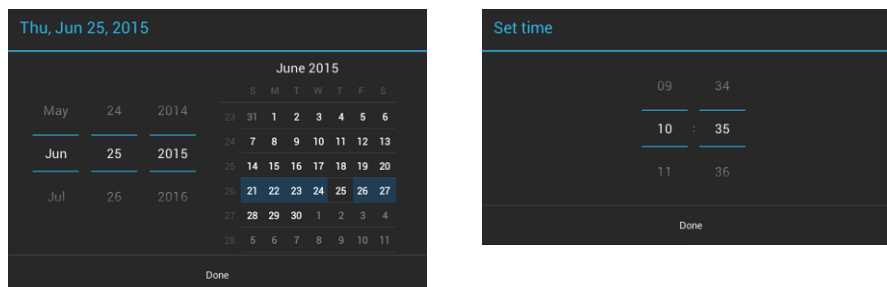

FIG. 65 Set Date and Set Time windows
Set Date:	Use the Set Date window (FIG. 65) to set the current day, month, and year.
Set Time:	Use the Set Time window (FIG. 65) to select the current time.
2. Press **Set Date** to open the *Set Date* window (FIG. 65).